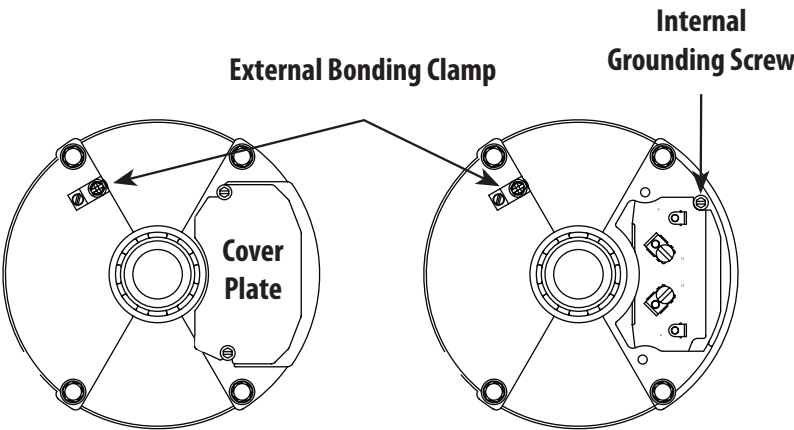

FIGURE 1
6. Permanently ground the motor using the internal, green ground terminal located on the inside of the motor canopy or access plate (Figure 1). Use the correct wire size and type specified by National Electrical Code. Make sure the ground wire is connected to an electrical service ground.
7. Bond the motor to the pool structure in accordance with the National Electrical Code. Use a solid No. 8 AWG or larger copper conductor. Run a wire from the brass external bonding clamp (Figure 1) to the pool bonding structure.